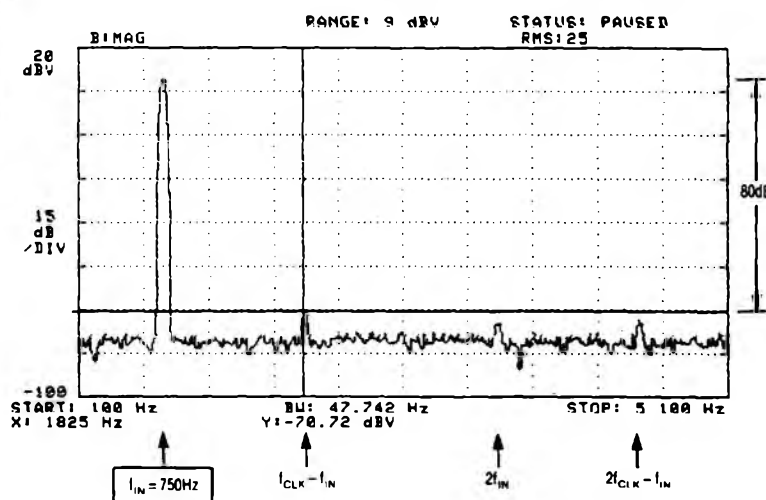

Figure 5A. Output Voltage Spectrum of 1/2 LTC1051 Operating as an inverting Amplifier with Gain of 10, and Amplifying a 750Hz, 800mV Input AC Signal.
2. If we arbitrarily accept that "aliasing" occurs when output alias signals reach an amplitude of 0.01% or more of the output signal, then: The approximate minimum frequency of an AC input signal which will cause aliasing is equal to the internal clock frequency multiplied by the square root of the op amp feedback factor. For instance, with closed loop gain of -10, the feedback factor is 1/11, and if $f_{CLK} = 2.6\text{kHz}$, alias signals can be detected when the frequency of the input signal exceeds 750Hz to 800Hz, Figure 5A.